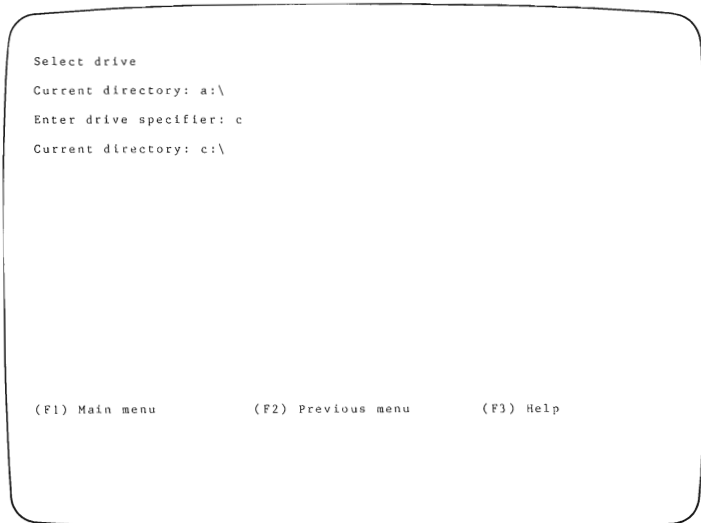

Figure 3-15. Select Drive Screen
The first two functions on this menu are *Select Drive* (1) and *Change Directory* (2). They provide you with the flexibility to move from one directory to another and to change your disk drive. (See figure 3-15 and 3-16.)